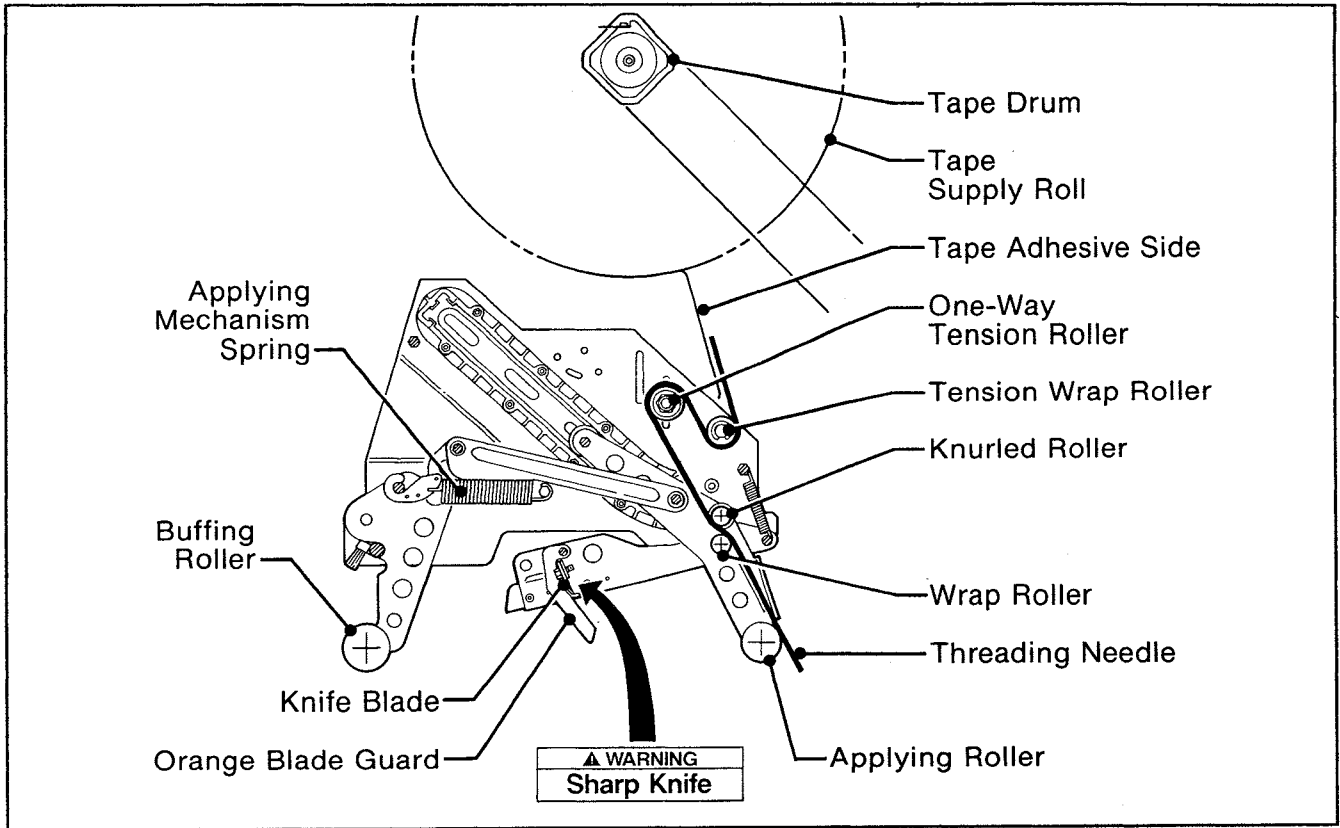

Figure 2-4 - Tape Threading Diagram - Upper Taping Head - Left Side View
1. BOTH THE UPPER AND LOWER TAPING HEADS UTILIZE EXTREMELY SHARP KNIFE BLADES. THE BLADES ARE LOCATED UNDER THE ORANGE BLADE GUARD WHICH HAS THE "WARNING - SHARP KNIFE" LABEL. BEFORE WORKING WITH THE TAPING HEADS OR ATTEMPTING TO LOAD THE TAPE, REFER TO FIGURES 2-4 AND 2-5 AND IDENTIFY THE BLADE LOCATION. KEEP HANDS OUT OF THESE AREAS EXCEPT AS NECESSARY TO SERVICE THE TAPING HEADS.
The applying mechanism spring, shown in figures 2-4 and 2-5, controls applying and buffing roller pressure on the box and returns the mechanism to the reset position. The spring pressure setting, as shown in figure 3-3A, is for normal operation but is adjustable.